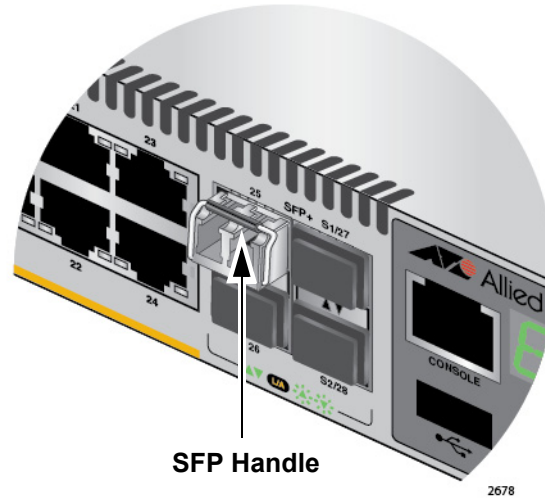

Figure 30. Positioning the SFP or SFP+ Handle in the Upright Position
6. Verify the position of the handle on the SFP transceiver. If the transceiver is in a top slot, the handle should be in the upright position, as shown in Figure 30. If the transceiver is in a bottom slot, the handle should be in the down position.